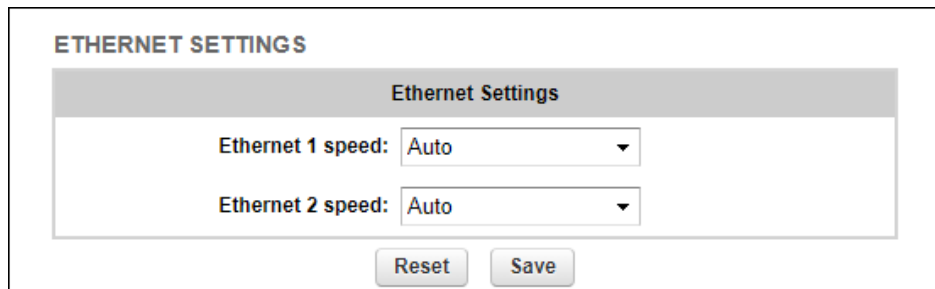

Figure 27. Configurator GUI (Ethernet settings window)
- The **Ethernet Settings** dialog will be shown (Figure 27 \(page 71\)).